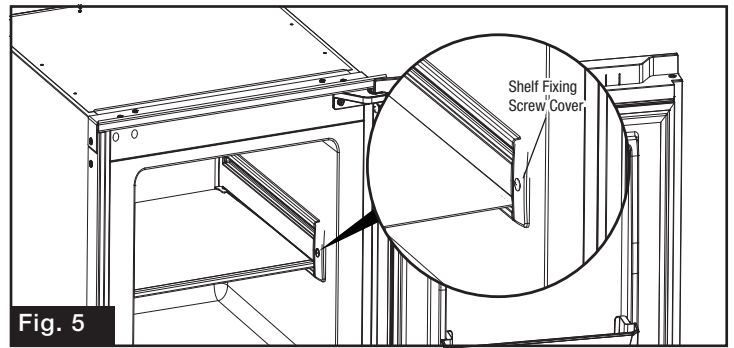

Fig. 5
2. Lever the shelf fixing screw cover using a sharp tool. (Fig. 5)